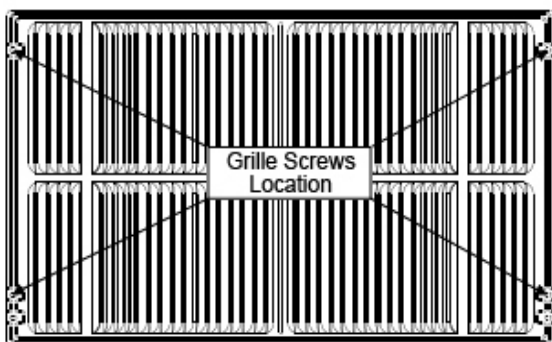

Fig. 2
4. If the unit has not been pre-drilled (some models), carefully drill 4-1/8" holes through the grille and into the side flange of the unit approximately 1 1/2" to 2" from the top and bottom as in Fig. 2, 3 .